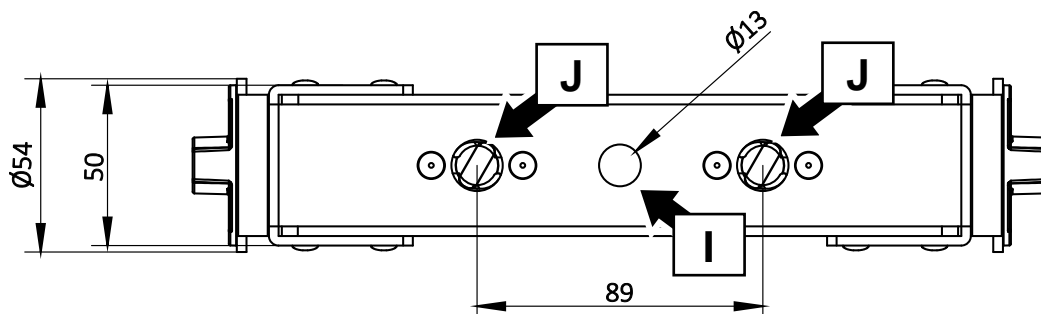

Figure 3. Attachment points in Mounting yoke
2. Fasten the mounting yoke to the surface by passing a suitable fastener such as a grade 8.8 steel bolt or screwbolt through the 13 mm hole in the yoke (see **I** in Figure 3) and fastening it to the surface. Adjust the aim of the fixture before tightening the fastener.
2. Fasten the omega bracket to the fixture's mounting yoke by inserting the camlock fasteners into the camlock receptacles (**J** in Figure 3) in the mounting yoke and turning the handles on the camlock fasteners a full 90 degrees clockwise to lock them.